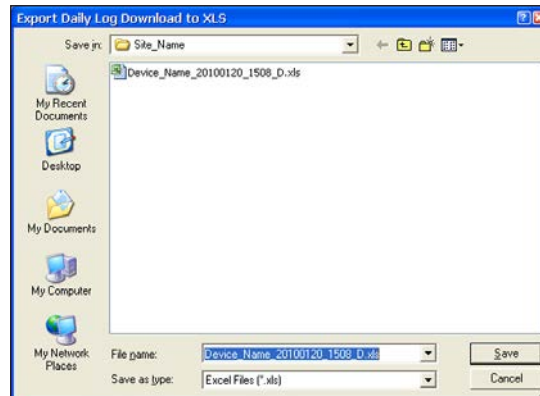

Figure 14.37
3. An Export... window will appear (Figure 14.37). To change the file path and/or file name from the defaults listed below, browse to the desired file path and/or type the desired entry in the field provided. See Log Directory and Filenames, page A-16 for more information.